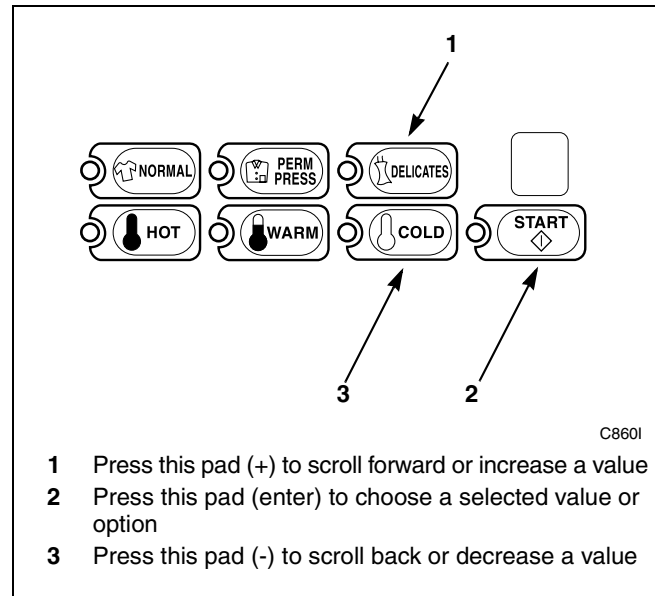

Figure 164
5. Press the DELICATES (+) or the COLD (-) keypad to increase or decrease the current number of minutes displayed in the VFD to the desired number of minutes. Refer to *Figure 164*.